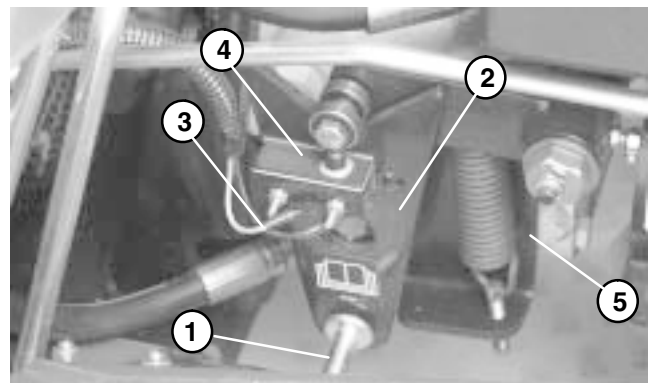
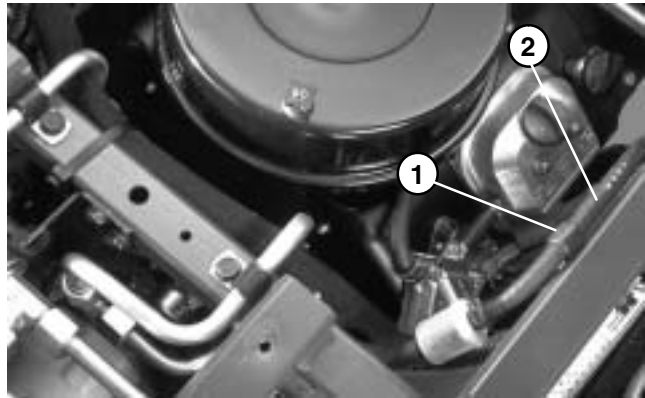
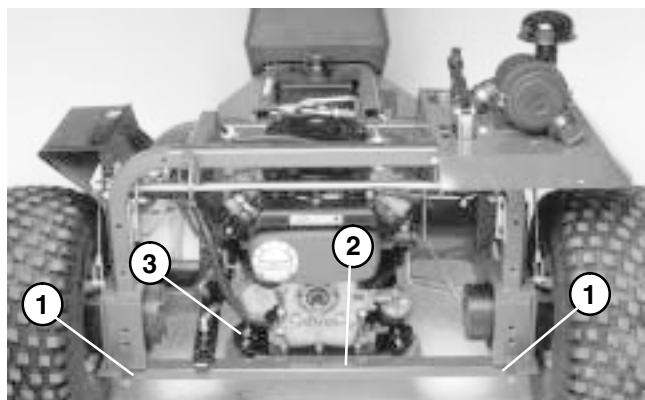

Figure 36
Figure 37
Figure 39
6. Disconnect control rod from pump lever and wires from the neutral switch (Fig. 36).
7. Loosen both set screws (11) on the pump hub (19) enough to allow the hydrostat shaft to be released.
8. Clamp hydraulic hose (35) and hydraulic hose (25) to prevent draining of the tank. Disconnect all six hydraulic hoses from fittings on the hydrostat. Allow hoses to drain into a suitable container.
9. Remove self tapping screw securing R-clamp and fuel hose to the frame (Fig. 37)
- A. Position a jack or chain fall to the engine base (Fig. 39).
- C. Remove cap screws and flat washers securing the engine support to the frame (Fig. 39).
12. Remove fan hub (27) with cooling fan (28) and woodruff key (9) from the hydrostat shaft.
14. Remove cap screw and lock nut securing the pump lever to the hydrostat trunnion. Remove three cap screws securing the pump plate to the hydrostat while pulling the pump plate from the hydrostat (Fig. 36).
2. Securing pump plate to the hydrostat with three cap screws. Secure pump lever to the hydrostat trunnion with cap screw and lock nut (Fig. 36).
4. Install woodruff key (9) and fan hub (27) with cooling fan (28) to the hydrostat shaft. Secure hub to shaft with both set screws.
5. Secure hydrostat (8) to engine base with both socket head screws (20) and lock nuts (10).
- B. Secure engine mount to the frame with four cap screws and flat washers (Fig. 39).
7. Secure R-clamp and fuel hose to the frame with self tapping screw (Fig. 37).
9. Tighten both set screws (11) on pump hub (19) enough to secure the hub to the shaft.
10. Connect air hose to the air cleaner. Install lower shroud to the cooler mount. Connect control rod to the pump lever (Fig. 36).